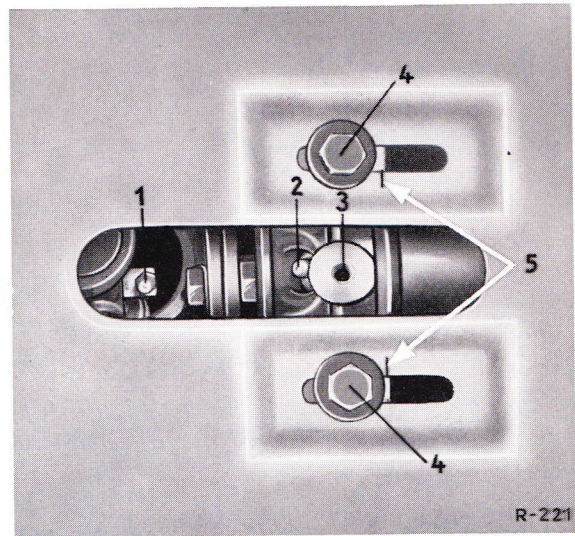

Fig. 25-1/3
5. Take off the cover plate for the propeller shaft intermediate bearing. Then unscrew the two hexagon screws for fixing the intermediate bearing (Fig. 25-1/3).